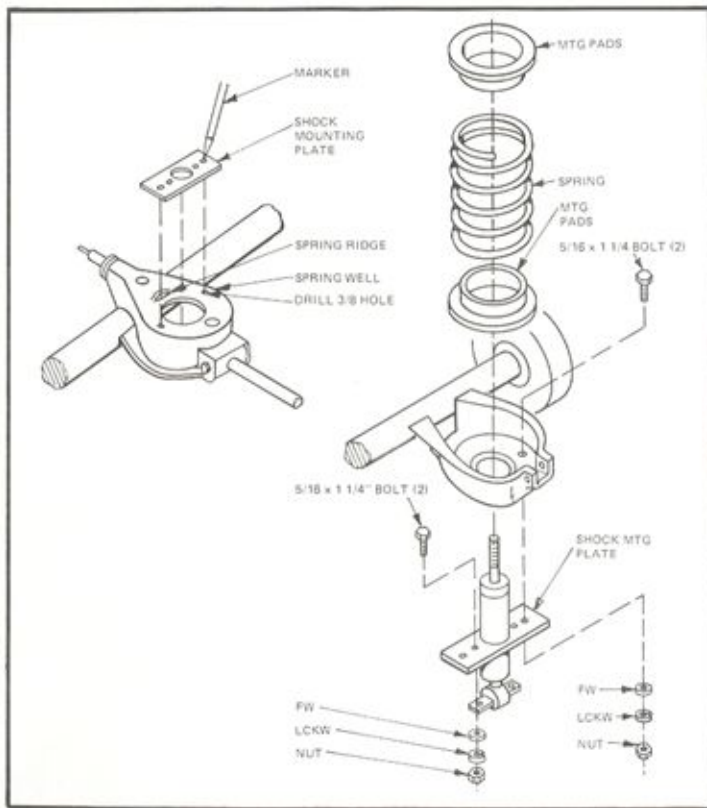

Figure 13
- Turn the entire assembly over, so the bottom of the spring wells are up. Using the shock mounting plates supplied as a template, lay it over the spring well, pushing it against the spring ridge as shown, and mark the hole locations. They should be evenly spaced on either side of the central hole. Drill 3/8" holes at marked locations. (Figure 13)